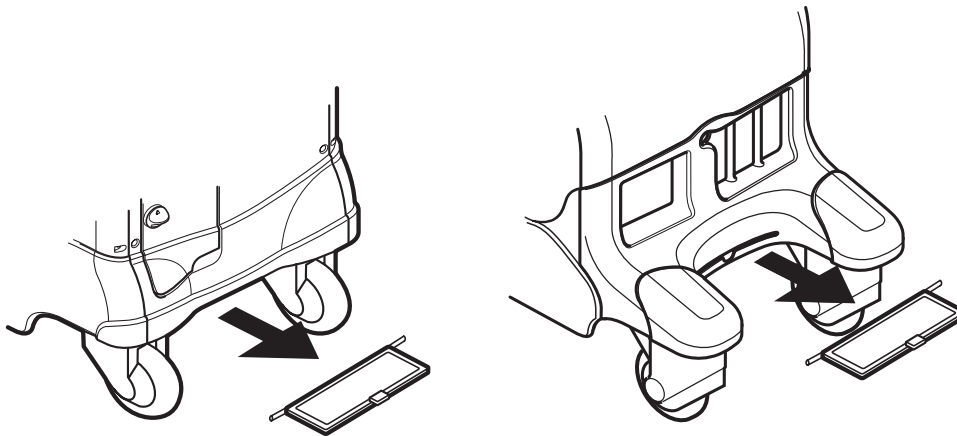

Figure 8-87 Removing the Air Filters
- 1.) Remove Air Filter as illustrated below. Refer to Figure 8-87 on page 8-66 .